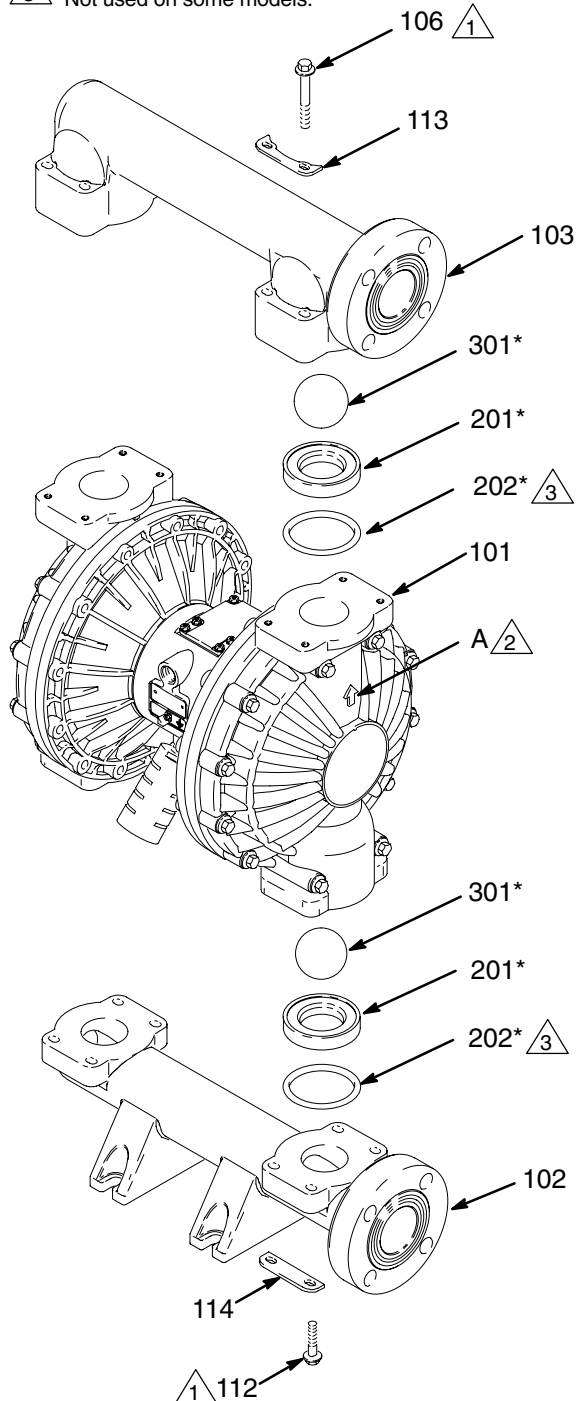

Fig. 11
3. Using a 10 mm socket wrench, remove the eight bolts (106), and four washers (113), holding the outlet manifold (103) to the fluid covers (101). See Fig. 11.
4. Remove the seats (201), balls (301), and o-rings (202) from the manifold.
**NOTE:** Some models do not use o-rings (202).
5. Turn the pump over and remove the bolts (112), washers (114), and inlet manifold (102). Remove the seats (201), balls (301), and o-rings (202) from the fluid covers (101).
2. Reassemble in the reverse order, following all notes in Fig. 11. Be sure the ball checks are assembled **exactly** as shown. The arrows (A) on the fluid covers (101) **must** point toward the outlet manifold (103).